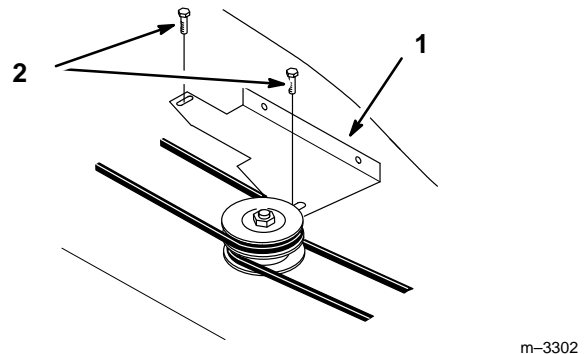

Figure 35
2. On 42" mower, remove the belt cover bracket (Fig. 35).